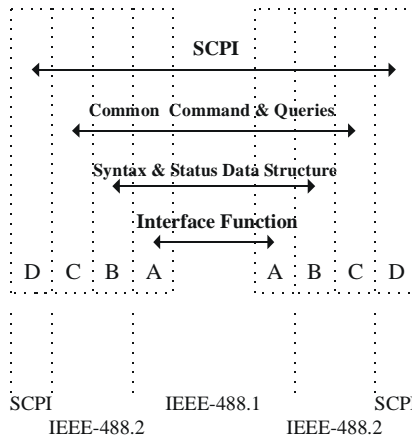

Figure 16.- The relationship between IEEE-488.1, IEEE-488.2 and SCPI.
As shown in the figure 16, the IEEE-488.1 standard locates at layer A, the layer A belongs to the protocol of interface function on the GPIB bus. The source handshake (SH), acceptor handshake (AH) and talker are included to this layer (10 interface functions totally).